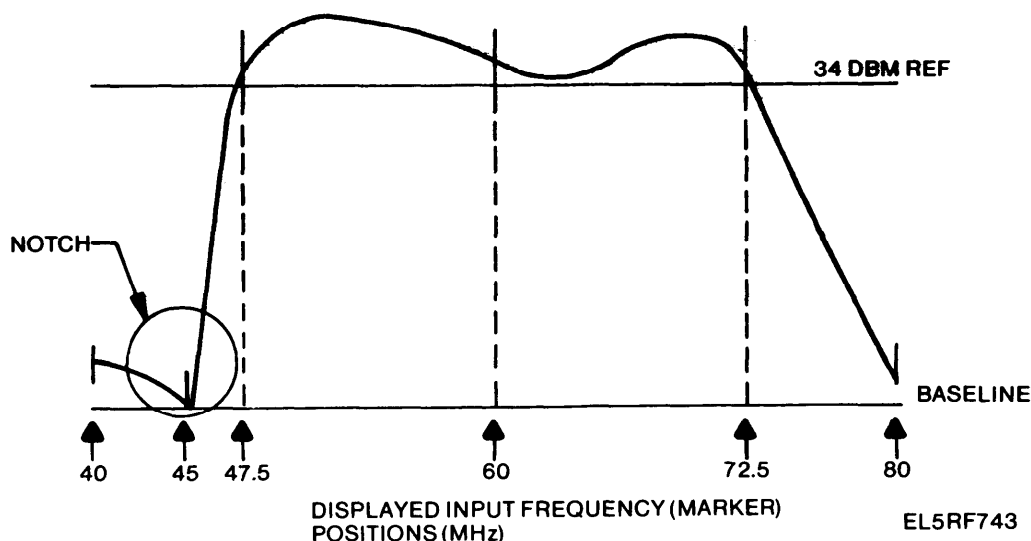

Figure 3-110. Amplifier-Frequency Multiplier 5TR1A4, Typical Output Response Display.
(f) Adjust C-14, C-22, C-26, C-27, C-35 and C-36 for a flat response similar to the response shown in figure 3-110 with the notch adjusted (C-36) to approximately 45 MHz and the response from 47.5 to 72.5 MHz displayed above the reference line noted in (1)(e) above.